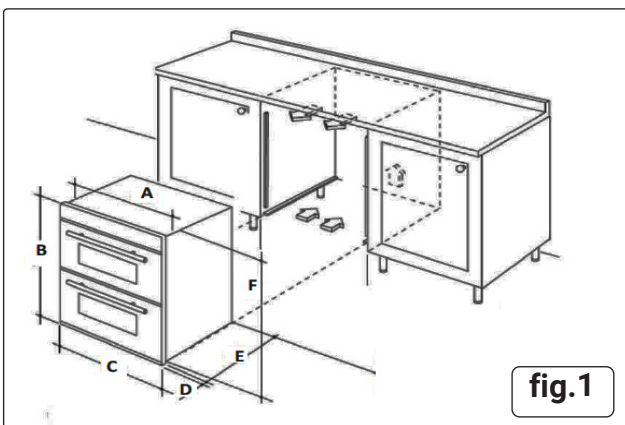

fig.1
Key to fig.1
- Ensure that the aperture that you will be fitting the oven into is of the size given in fig.1., fig.2. The oven must be fitted into an oven housing with the appropriate ventilation gaps.